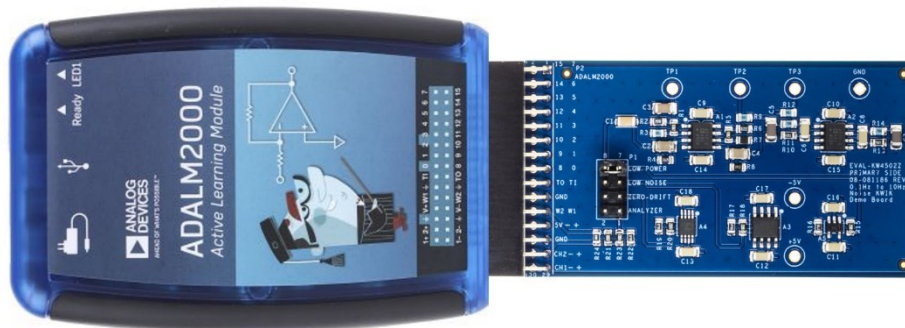

Figure 6. EVAL-KW4502Z with ADALM2000
5. Connect the EVAL-KW4502Z top side with the top side of the ADALM2000 aligning their pinouts as shown in Figure 6.